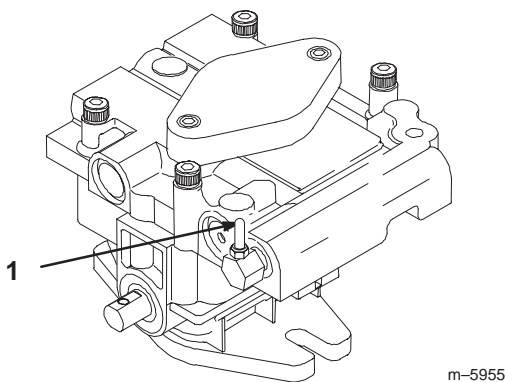

Figure 24
2. Rotate the by-pass valves open 1/2 turn. This allows hydraulic fluid to by-pass the pumps and the wheels to turn (Fig. 24).